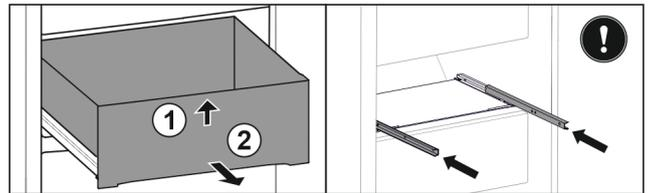

Fig. 28*
- ▶ Lift up the drawer at the front Fig. 28 (1).*
- ▶ Remove to the front Fig. 28 (2).*